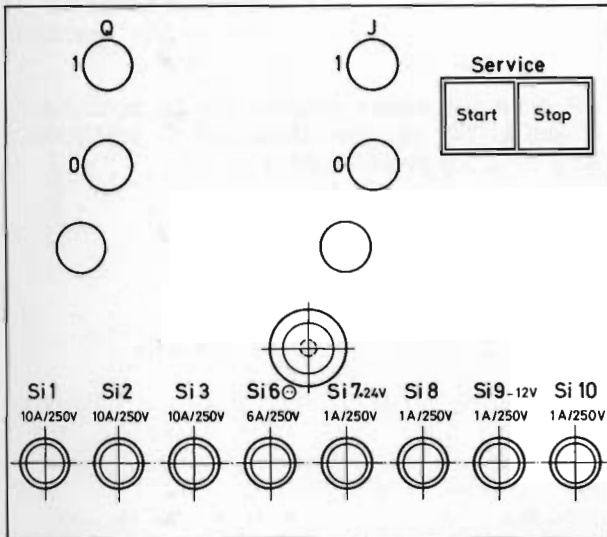

Fig. 12-18 Power Supply Insert
12.15.1. Power Supply Insert (Figs. 12-18 and 12-19)